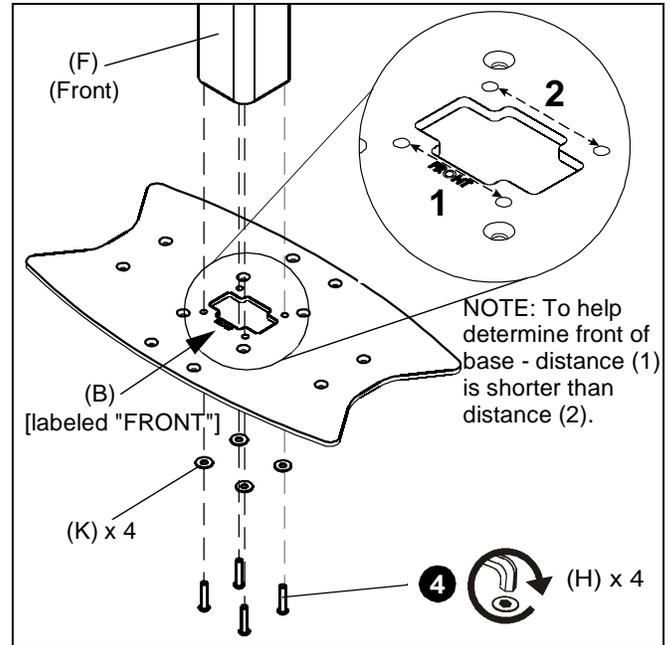

Figure 2
4. Attach stand base - union section (B) to the upright (F) using four 5/16-18 x 1-1/2" button head cap screws (H) and four 5/16" flat washers (K). (See Figure 2)
NOTE: Ensure that upright (F) front is placed to the front of base section (B). Check for "FRONT" on base section (B). (See Figure 2)